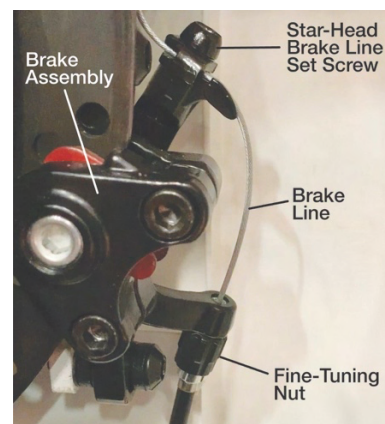

Figure 10-2
5. Locate the star-head brake line set screw on the brake assembly (see Figure 10-2).